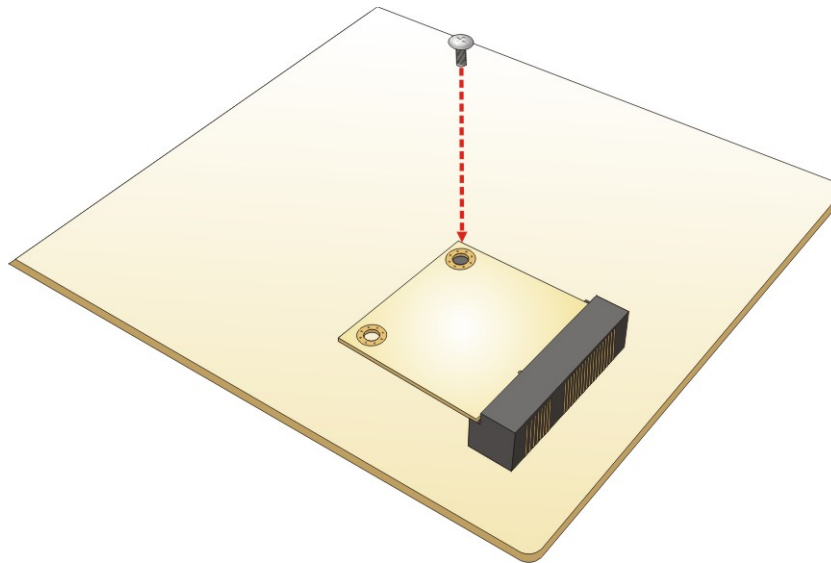

Figure 4-7: Securing the Half-size PCIe Mini Card
Step 4: Secure the half-size PCIe Mini card. Secure the half-size PCIe Mini card with the retention screw previously removed (**Figure 4-7**).